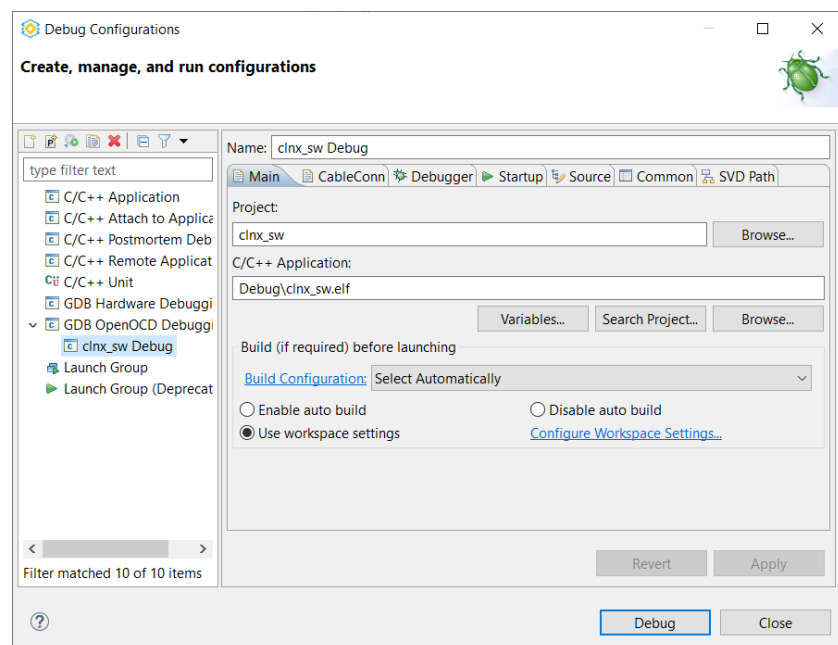

Figure 5.12. Debug Configurations for GDB OpenOCD Debugging
2. Double-click **GDB OpenOCD Debugging**. A new debug configuration is automatically generated for the active project, as shown in Figure 5.12.